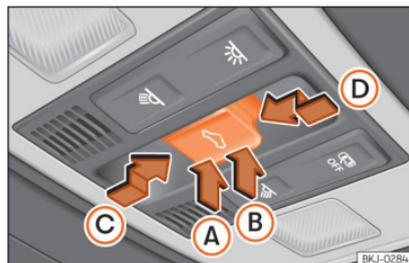

Fig. 102 On the interior roof lining: sunroof button.
The ⇄ button »» Fig. 102 has two levels. The first level switches the sunroof to the tilted position, opening or closing it fully or partially.
- Within approximately 5 seconds of having activated the roll-back function, press the  **Fig. 102** button to the second level in the direction of arrow **Fig. 102**  until the sunroof closes completely.